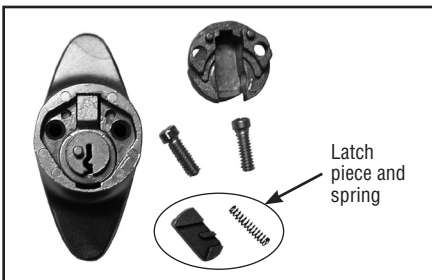

Figure 3
3. Remove the two philips head screws from the back of the lock and remove the cap exposing the small latch piece and spring. (Fig. 3)